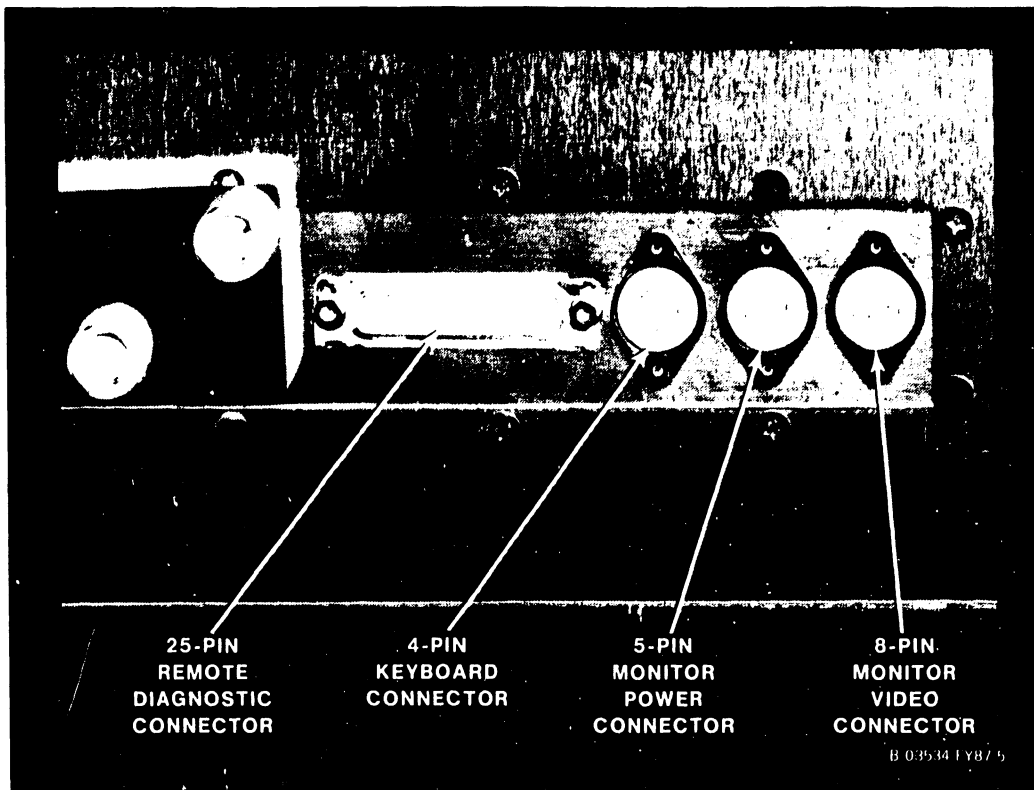

Figure 9-7. SCU Connector Panel
1. Connect the SCU's 4-pin keyboard cable, and the 5-pin monitor power and the 8-pin monitor video cables to the SCU Connector Panel as shown in figure 9-7.